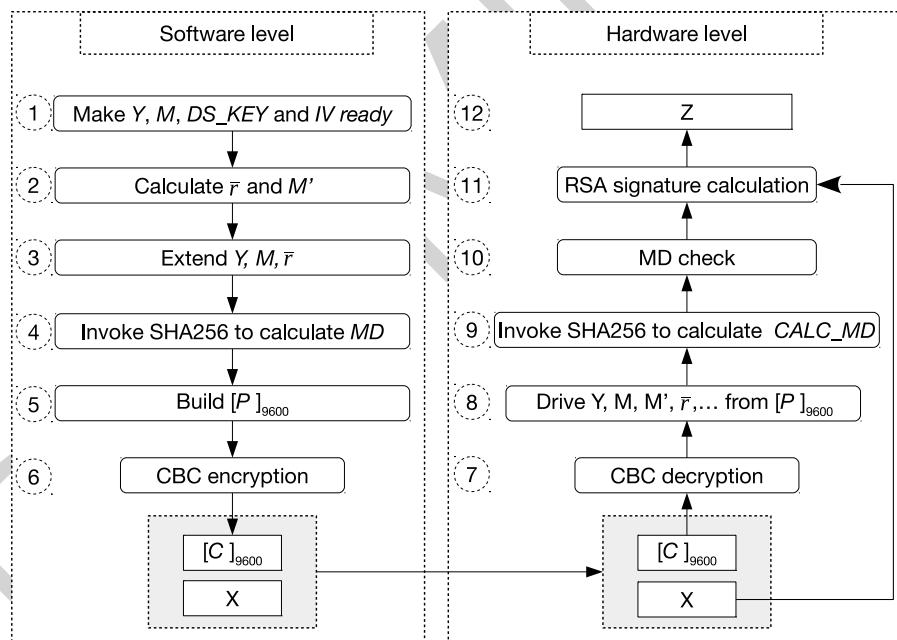

Figure 19-1. Software Preparations and Hardware Working Process
If you want to use the DS module for digital signature, the software and hardware must work closely to implement this successfully, and the software needs to do a series of preparations, as shown in Figure 19-1. The left side lists preparations required by the software before the hardware starts RSA signature calculation, while the right side lists the hardware workflow during the entire calculation procedure.
1. The software preparation (left side in the Figure 19-1) is a one-time operation before any signature is calculated, while the hardware calculation (right side in the Figure 19-1) repeats for every signature calculation.
You need to follow the steps shown in the left part of Figure 19-1 to calculate C . Detailed instructions are as follows:
1. Decryption: Step 7 and 8 in Figure 19-1
The decryption process is the inverse of Step 6 in figure 19-1. The DS module will call AES accelerator to decrypt C in CBC block mode and get the resulted plaintext. The decryption process can be represented by $P = AES\text{-}CBC\text{-}DEC(C, DS_KEY, IV)$, where IV (i.e., $[IV]_{128}$) is defined by you. $[DS_KEY]_{256}$ is provided by HMAC module, derived from $HMAC_KEY$ stored in eFuse. $[DS_KEY]_{256}$, as well as $[HMAC_KEY]_{256}$ are not readable by the software.
2. Check: Step 9 and 10 in Figure 19-1
The DS module will perform two checks: MD check and padding check. Padding check is not shown in Figure 19-1, as it happens at the same time with MD check.
3. Calculation: Step 11 and 12 in Figure 19-1